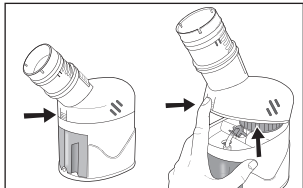

Fig. 1
2. Remove the top cover of the housing by pressing the ridged area on the underside of the extension tube and pulling up on the top cover, Fig. 1.